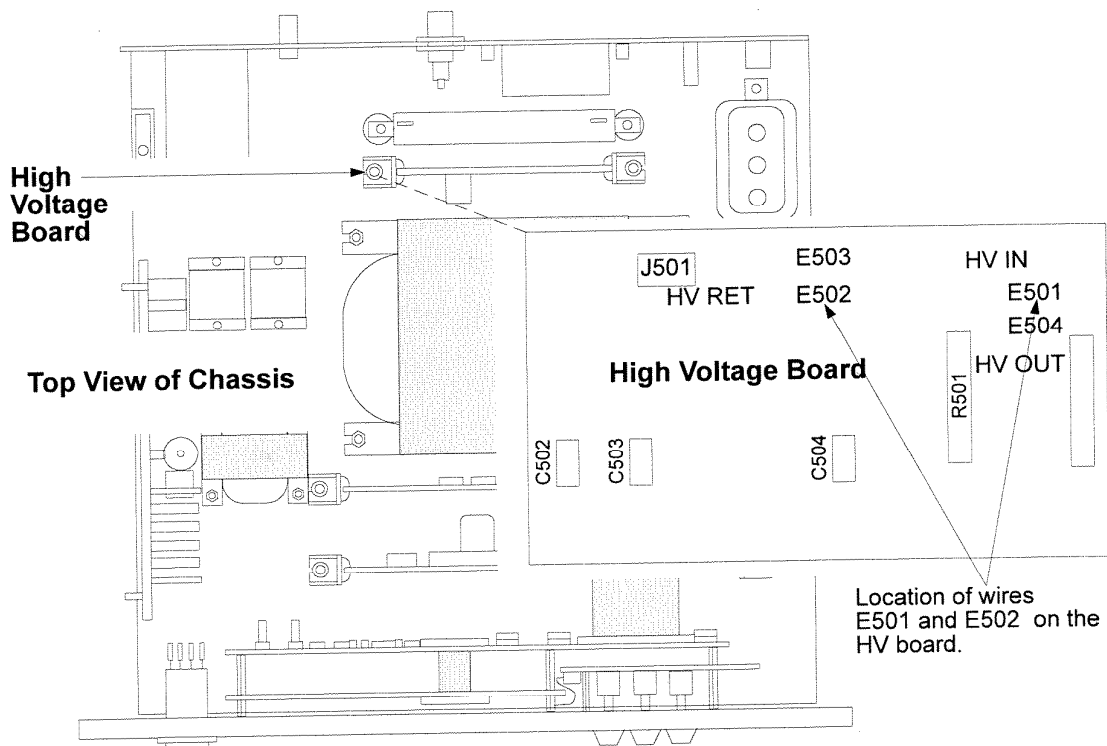

Figure 2-2. Location of E501 and E502 on HV Board
Note For negative output operation, the polarity must be changed. To do this, reverse the position of wires E501 and E502 on the high voltage (HV) board and solder them (Figure 2-2).